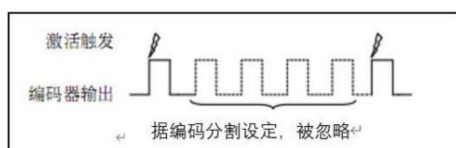

Figure 3.1.4 Coding Partition with a Partition Interval of 5
- **Encoder segmentation:** Set input parameters based on the sensor X-axis data interval and encoder pulse count value to adjust the sample contour capture to 1:1. When the encoder output speed is too fast, triggering can be activated after setting the interval. The setting range is [1,1000]. When the encoder segmentation interval is 5, as shown in Figure 3.1.4.